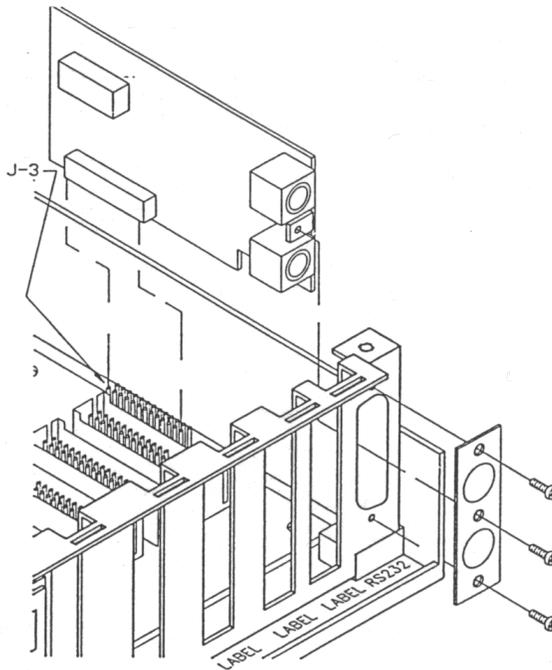

Figure C-1 Installing the Serial Communication Board
3. Remove the blank plastic cover from the rear panel (Figure C-1).